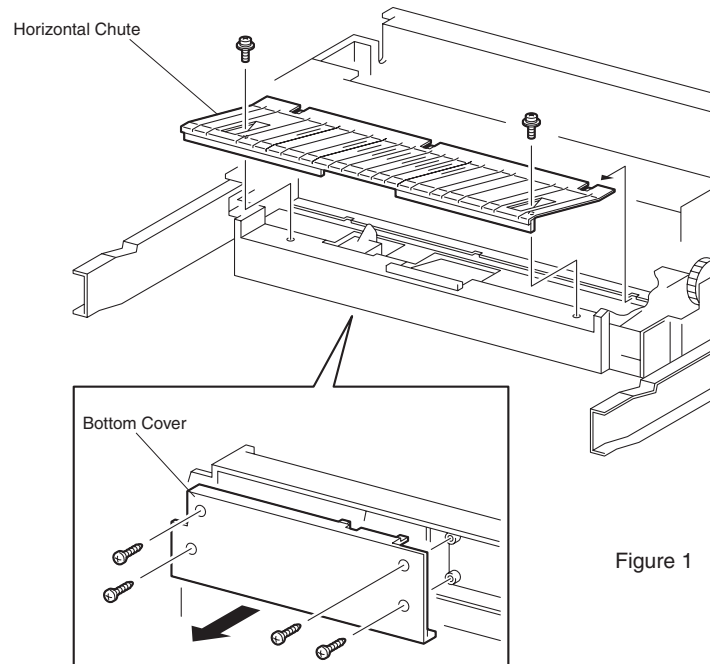

Figure 1
2. Remove the two screws securing the Horizontal Chute to the Fuser Tray and remove the Chute (Figure 1).